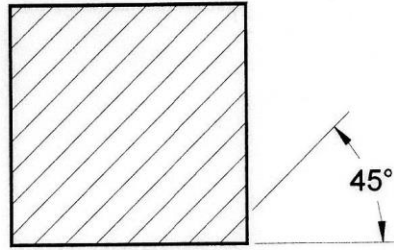

Figure 2. Section Lines.
C. Identify and explain the following concerning section lines (see Figure 2):